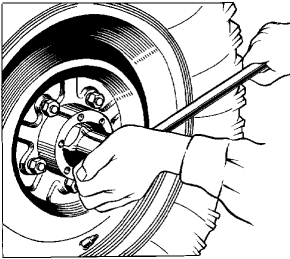

Fig. 55. Adjustment of hub bearings
6. Tighten the adjusting nut of the hub bearings with the aid of a wrench applying a hand effort to the wrench tommy bar 300-350 mm long until the wheel is rotated with difficulty (Fig. 55). When tightening the nut, apply the effort to the tommy bar smoothly without jerks and simultaneously rotate the wheel to allow the roller to assume correct position on races of the bearings.